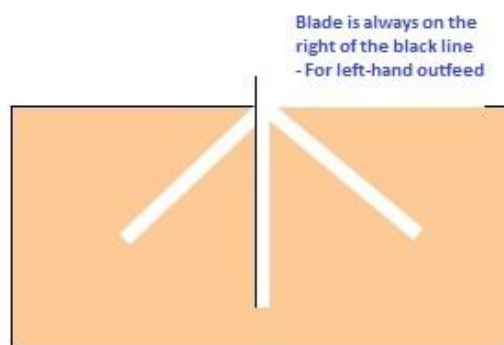

Figure 26, Example of a correct Left-hand Outfeed test cut
6. Check the alignment of the outfeed side of the cuts. The points of intersection should all be at the same point at the rear face of the timber, as shown in Figure 26.